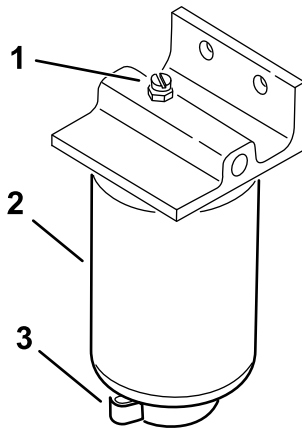

Figure 38
4. Open the filter drain plug and breather valve (Figure 38).